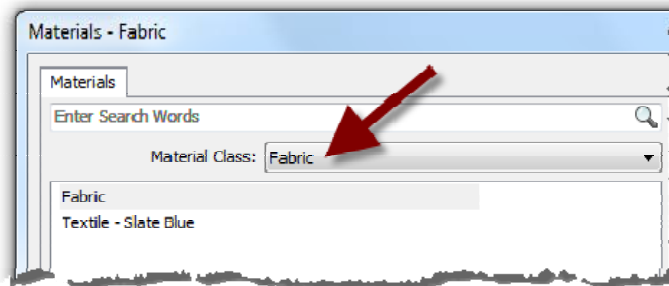

FIGURE 4-2.2 Sort by Material Class
Selecting from the **Material Class** (MC) drop-down list, above the list of *Materials*, narrows the list down to just *Materials* which have been assigned to that MC. In Figure 4-2.2 the MC is set to “Fabric,” which narrowed the *Materials* list down to just two items. More on the MC list in a moment.